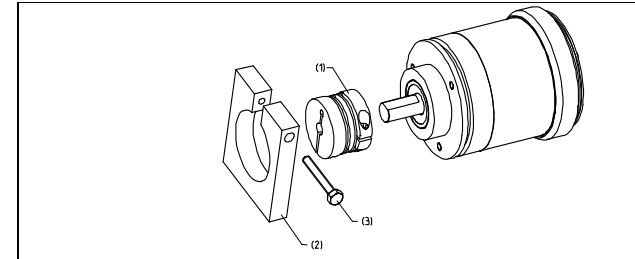

Figure 10-4: Face mount flange (Installation via mounting spigot)
- by clamping the mounting spigot (Figure 10-4).